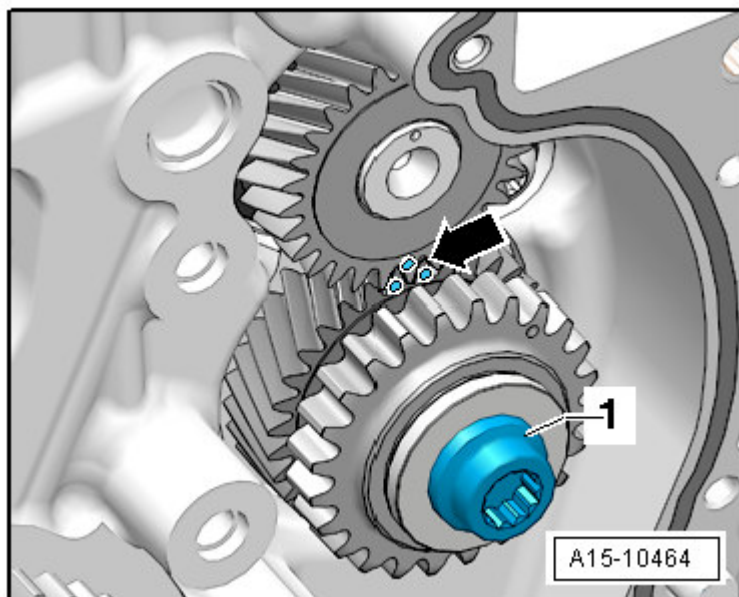

Fig. 15: Identifying Intermediate Shaft Sprocket
- Tightening sequence, refer to **Fig. 15**.